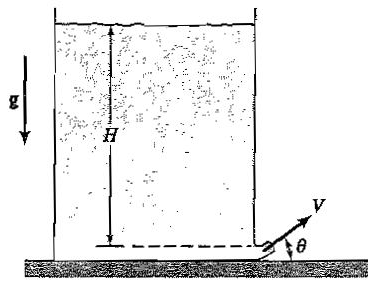

Figure P4.36
4.36 A jet of constant density fluid rises into the atmosphere, without loss, from the bottom of a large tank, as shown in Figure P4.36.